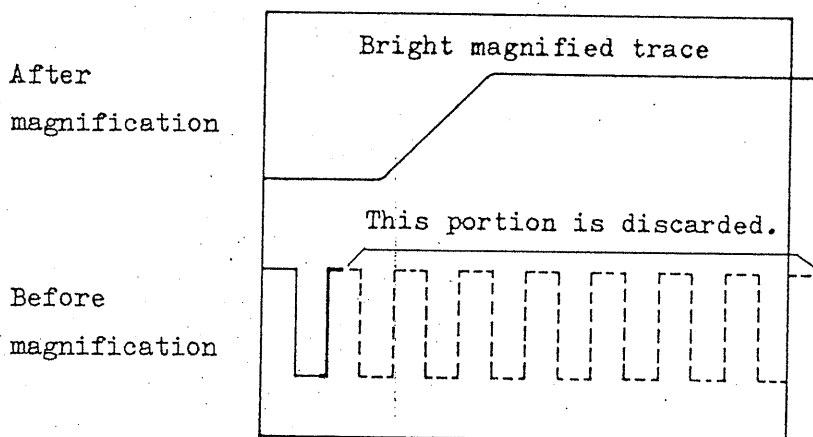

Figure 14
The operating method is the same with that of Sections 4.8 and 4.9. Turn the A HOLD OFF knob (31) to the extremely clockwise position (B ENDS A position). A bright magnified trace as shown in Figure 14 will be displayed.